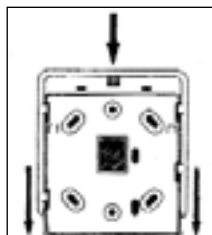

FIGURE 1
We also recommend that you install a CO alarm on every separate living level of the home where household members frequently spend time, as well as in the basement. See figures 1, 2, and 3 for typical CO alarm locations within the home.
1. From back of CO alarm, slide mounting plate and lift from base. See Figure 1.